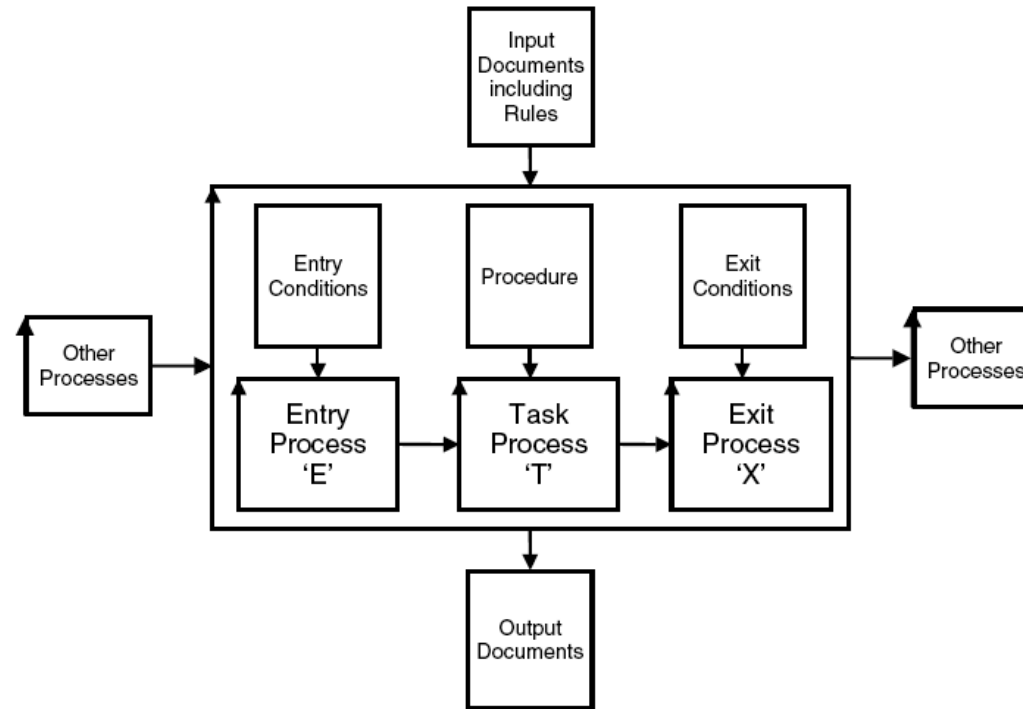

Figure 1.4
- An example of such a process could be !Requirement Specification." <- CE, figure 1.4